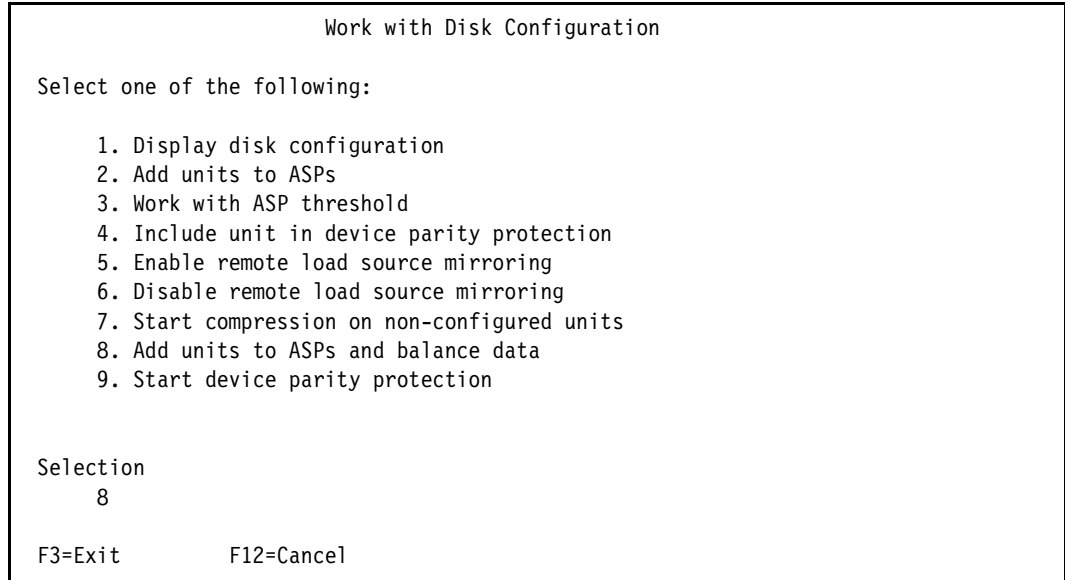

Figure B-3 Work with Disk Configuration menu
- When adding disk units to a configuration, you can add them as empty units by selecting Option 2 or you can choose to allow OS/400 to balance the data across all the disk units. Normally, we recommend balancing the data. Select Option 8, Add units to ASPs and balance data as shown in Figure B-3.